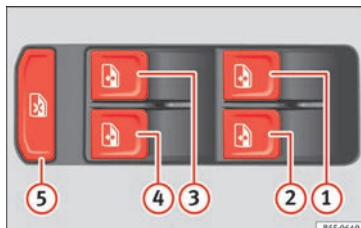

Fig. 140 Detail of the driver door: controls for the windows (5-door vehicle with front and rear electric windows).
The safety switch » **Fig. 140** on the driver door can be used to disable the electric window buttons on the rear doors.
Buttons » Fig. 140 ①, ②, ③ and ④ have two positions for opening windows and two for closing them. This makes it easier to open and close windows to the desired position.